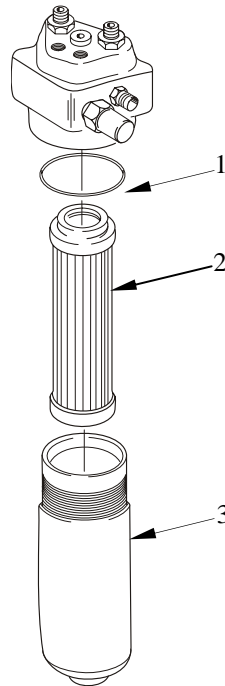

Figure 3 Pressure Reduction Oil Filter
- 14. **Removal.** To remove the pressure reduction filter element, proceed as follows (see Figure 3):
- c. Dismantle the filter housing (3).
- d. Remove the filter insert (2).
15. Installation. To install the pressure reduction filter element, proceed as follows (see Figure 3):
- a. Clean the filter housing (3).
- b. Fit a new insert (2).
- c. Fit a new seal ring (1).